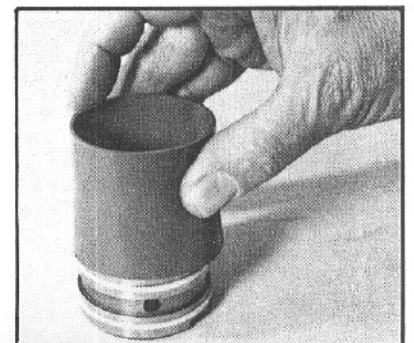

Figure 116
17. Use the compression tool J26648 to compress the Teflon seal rings (FIG. 116). Leave this compression tool on for 10 minutes.